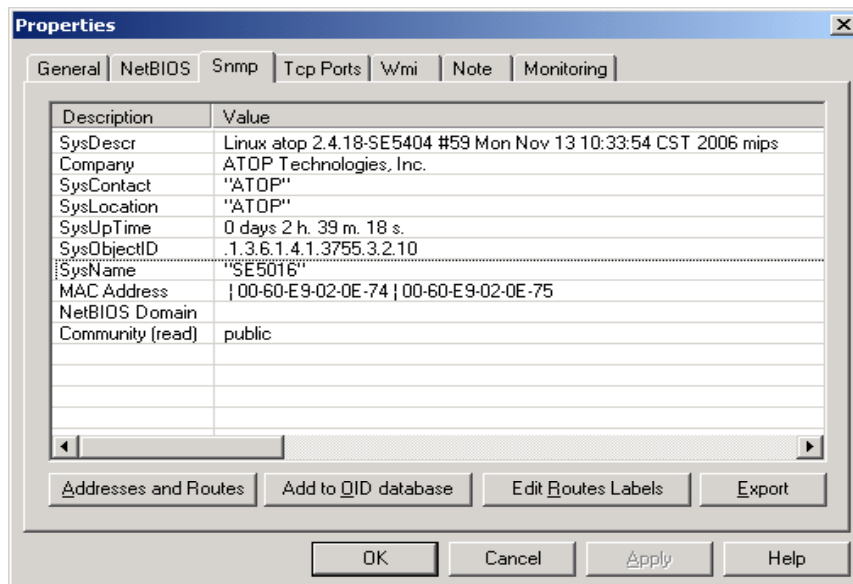

Figure 5.4 NetworkView display device information
- Double-click on the device icon to display information about the device, including IP Address, Company, SysLocation (Max 15 characters), SysName (Max 9 characters) and types etc (Figure 5.4).